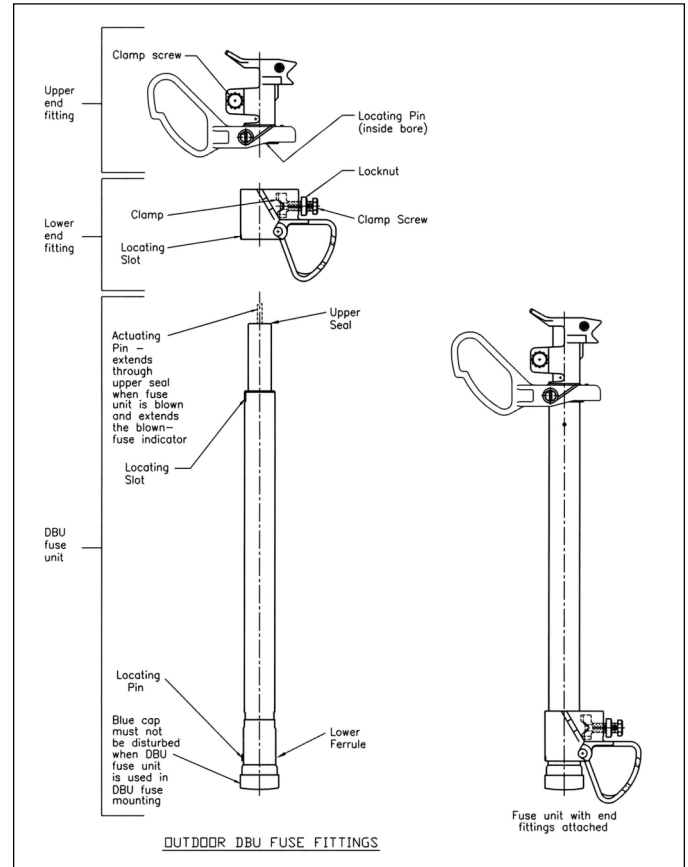

Fig. 2
Attach the fuse-unit end fittings (Fig. 2) as follows:
- A. When the fuse operates, the Fuse Unit swings to the open position. Remove it from the mounting, using a universal pole equipped with a suitable fuse handling attachment. Examine the end of the fuse unit to determine that the actuating pin (see Figure 2) extends through the upper seal, indicating that the fuse unit has operated.